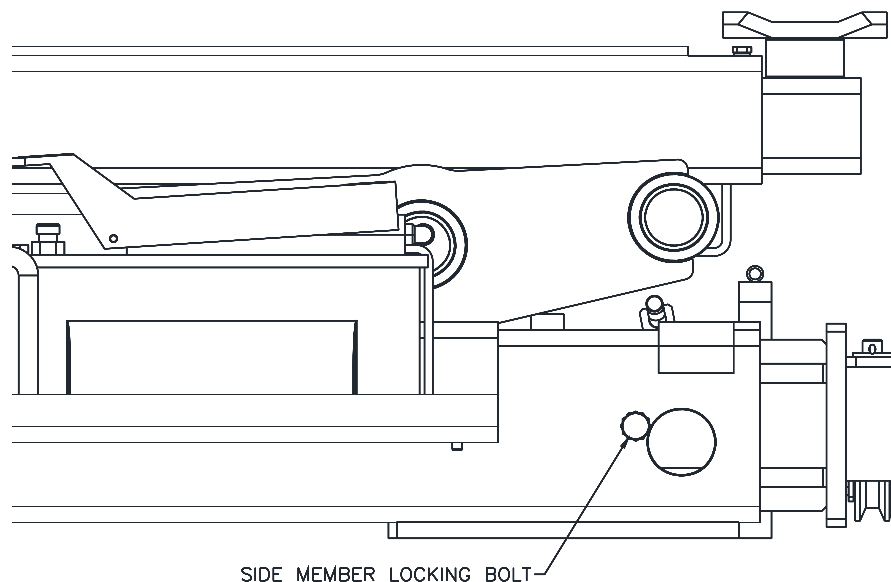

Fig. 2
- 3) Once side members are adjusted and jack is centered between the rails, tighten the (4) hex bolts (2 per side) to lock in place, Fig 2.